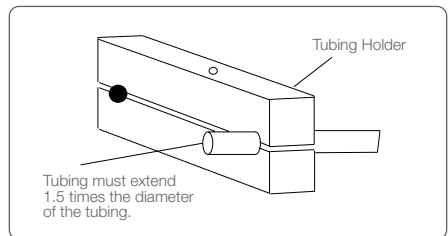

Figure 2. Placement of tubing using cut end.
2. Place the cut end of the tubing into the tubing holder, allowing for a length of approximately 1.5 times the outside diameter to protrude (Figure 2).